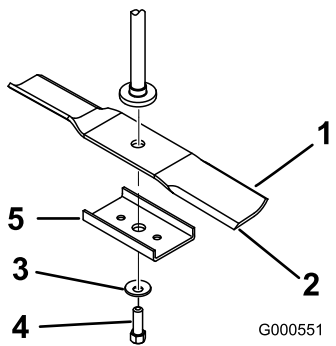

Figure 56
Hold the blade end using a rag or thickly-padded glove. Remove the blade bolt, curved washer, blade stiffener, and blade from the spindle shaft (Figure 56).
- Install the blade onto the spindle shaft (Figure 56).
- Install the blade stiffener, the curved washer (cupped side toward the blade) and the blade bolt (Figure 56).